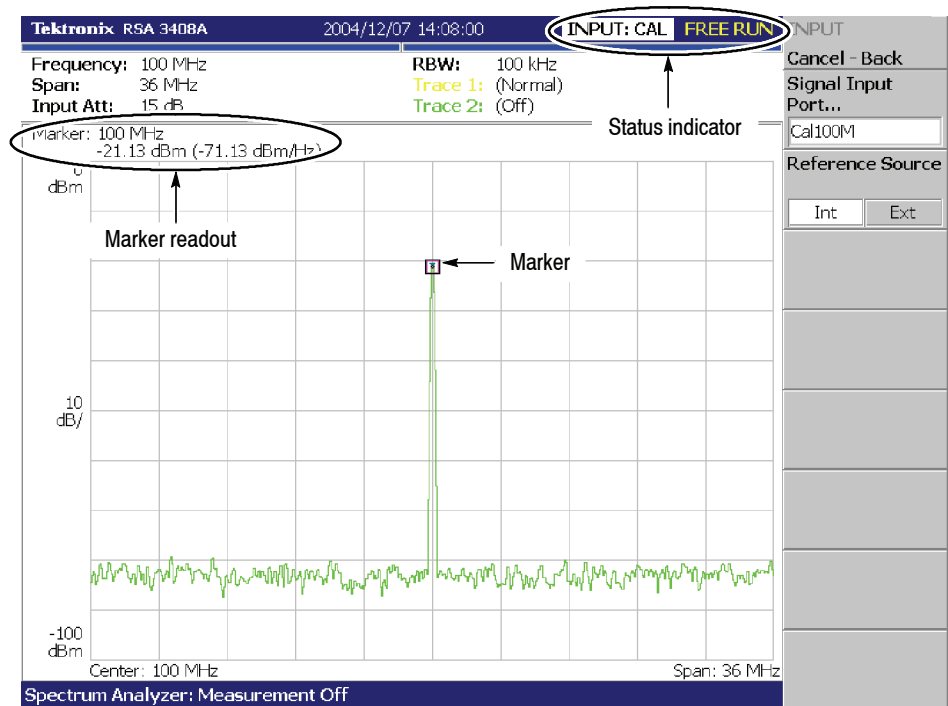

Figure 1-1: Spectrum of the calibration signal (100 MHz, -20 dBm)
- d. Check that “INPUT: CAL” and “FREE RUN” are displayed in the status indicator at the upper right of the screen (see Figure 1-1).
- a. Press the **PEAK** key on the front panel to place the marker on the peak (see Figure 1-1).